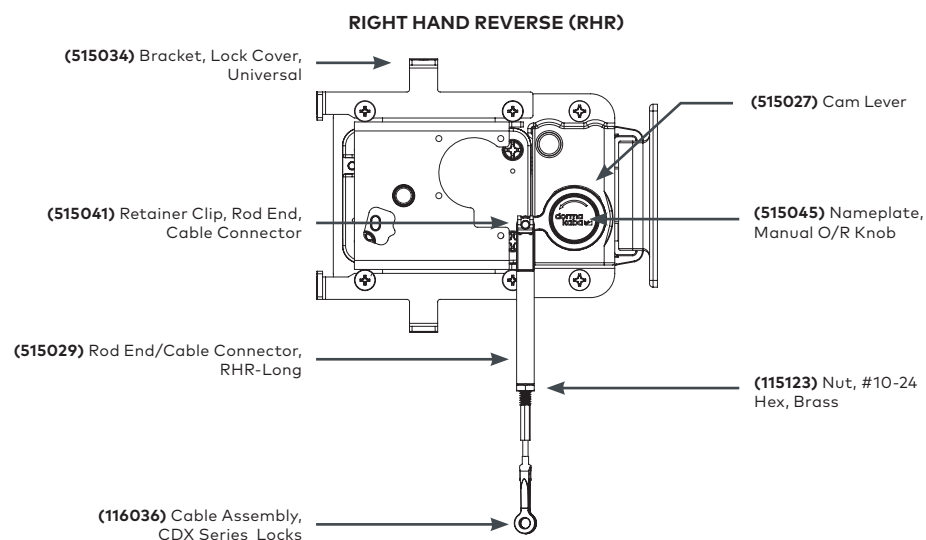

Figure 7
3. Refer to Figure 7 or Figure 8 depending on the handing of the installation.
2. Refer to Figure 7 or Figure 8 depending on the handing of the installation. Spread the (Clevis) strap fork over the upper Lever Arm (**DK9300-020-520**) of the Rim Exit Device chassis and align the strap fork holes with the hole in the (Clevis).